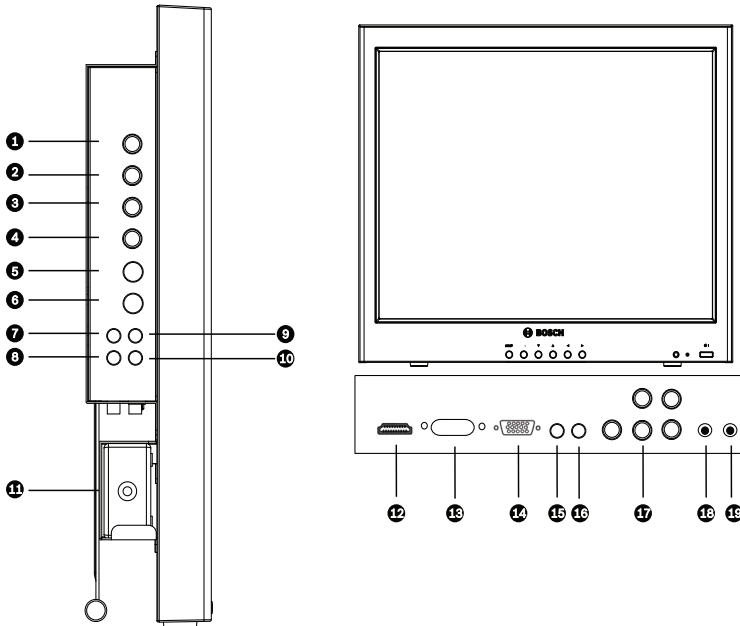

Figure 2.3 Side and Bottom Panels
There are two (2) BNC connectors located on the rear side panel of the monitor for composite video input and two (2) BNC connectors for composite video outputs (see *Figure 2.3*).